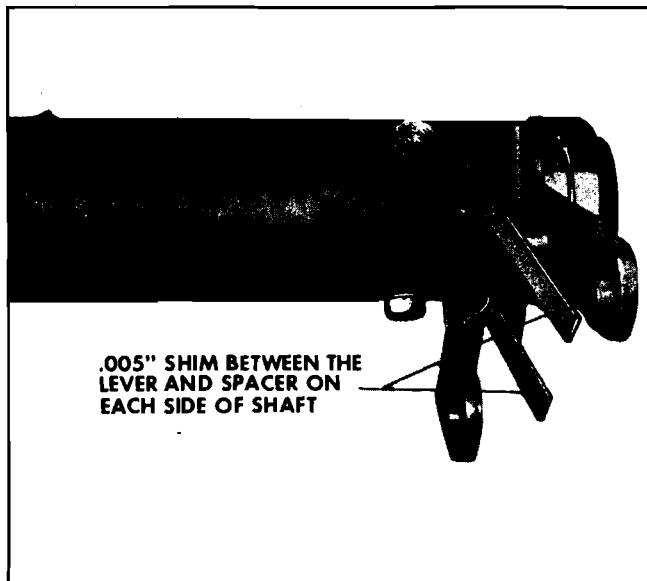

Fig. 9-29 Adjusting Lower Shift Lever Clearance
5. Place a .005" maximum shim on each side of steering shaft between either lever and the spacer (Fig. 9-29). By using two shims, the possibility of cocking the lever is eliminated.